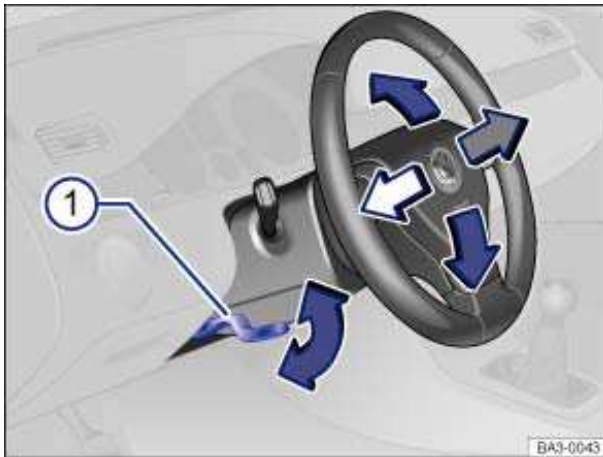

Fig. 62 Manual adjustment for the steering wheel position.
- Push down on the lever ⇒ fig. 62 \(1\).